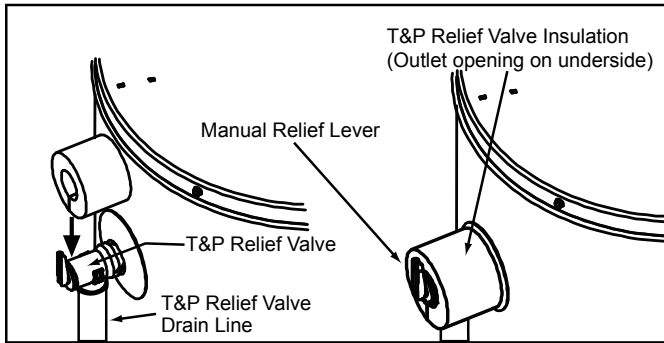

Figure 20
Locate the temperature and pressure relief valve on the water heater (also known as a T&P relief valve). See Figure 20.
2. Spread the slit open and fit the insulation over the T&P relief valve. See Figure 20. Apply gentle pressure to the insulation to ensure that it is fully seated on the T&P Relief Valve. Once seated, secure the insulation with duct tape, electrical tape, or equivalent. **Important:** The insulation and tape must not block the discharge opening or hinder access to the manual relief lever (Figure 20). Ensure a discharge pipe is installed into the T&P valve discharge opening per the instructions in this manual.